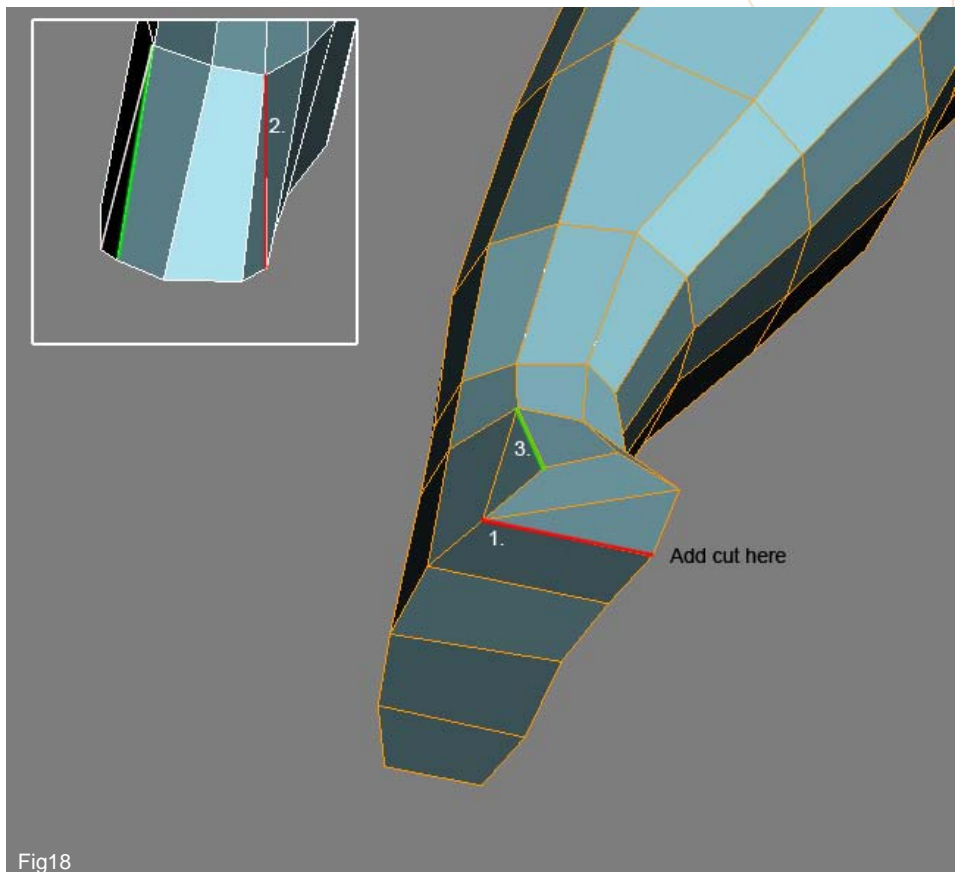

Fig18
18. Next add a cut on the underside (Fig18) in the position numbered 1. This will leave a five sided poly on the palm side of the hand and so to alleviate this continue the cut upwards in the position numbered 2. Now to give the thumb area more shape add a further cut in the position numbered 3. This will add a little more curvature to the thumb when we extend it downwards eventually.